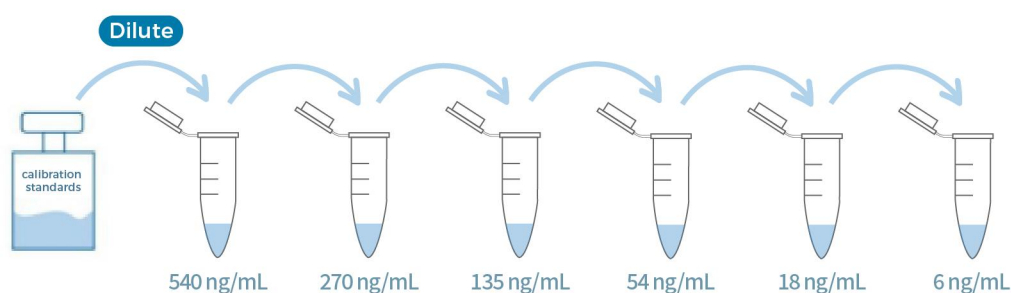

Figure 3. Graphic scheme of HEK 293 HCP Calibration Standard Solutions
(3) Preparation of Calibration Standard Solutions
- According to Fig 3 and Table 3, prepare HEK293 HCP Calibration Standard Solutions.